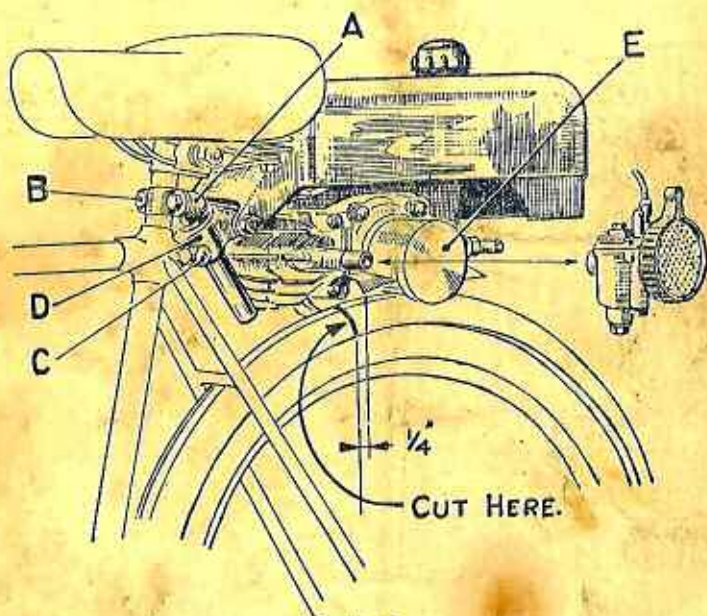

Fig. 2
- (1) Rest the unit on the rear mudguard (if there is a carrier or other fitting over the rear wheel this must first be removed). Fasten the elbow lug "A" on to the saddle pillar as low as possible, but do not completely tighten the clamp bolts "B" (Fig. 2.)
- (3) Make a mark on the mudguard at a distance of about $\frac{1}{4}$ in. forward of the roller mudguard "E" remove the unit and cut the mudguard in two halves at the mark, allowing the rear portion of the cut mudguard to swing backward, leaving a space between the two ends. (Fig. 2.)